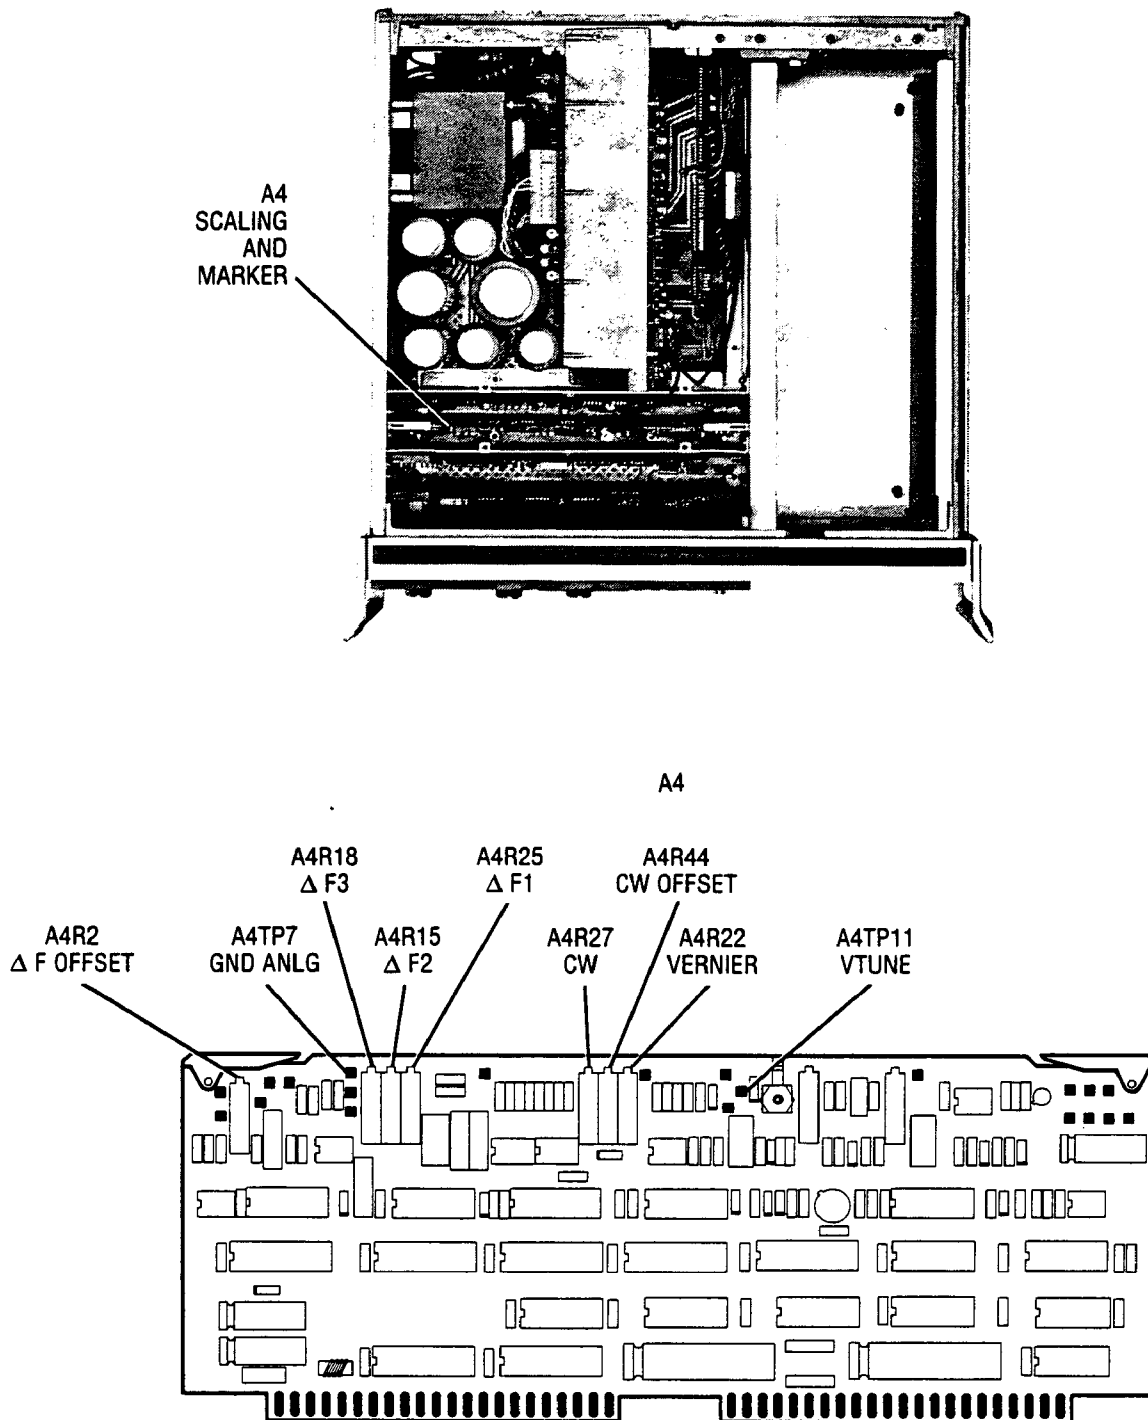

Figure 5-15. Location of Frequency Control Adjustments.
7. Adjust A4R44 (CW OFFSET) for a DVM reading of  $-0.20508 \pm 0.00002$  VDC. Refer to Figure 5-15 for adjustment location.
13. Adjust A4R27 (CW) for a DVM reading of  $10.2000 \pm 0.0001$  VDC.